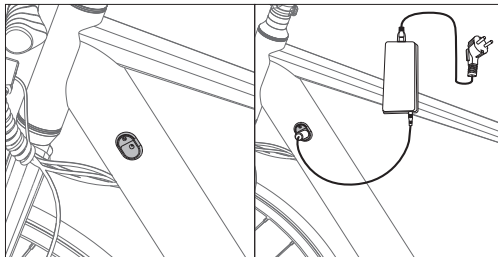

Figure 3-1
- Open the rubber cap and plug the charger into the e-bike charge port (Figure 3-1). Make sure that the charger port is in the given direction, as shown in (Figure 3-2).